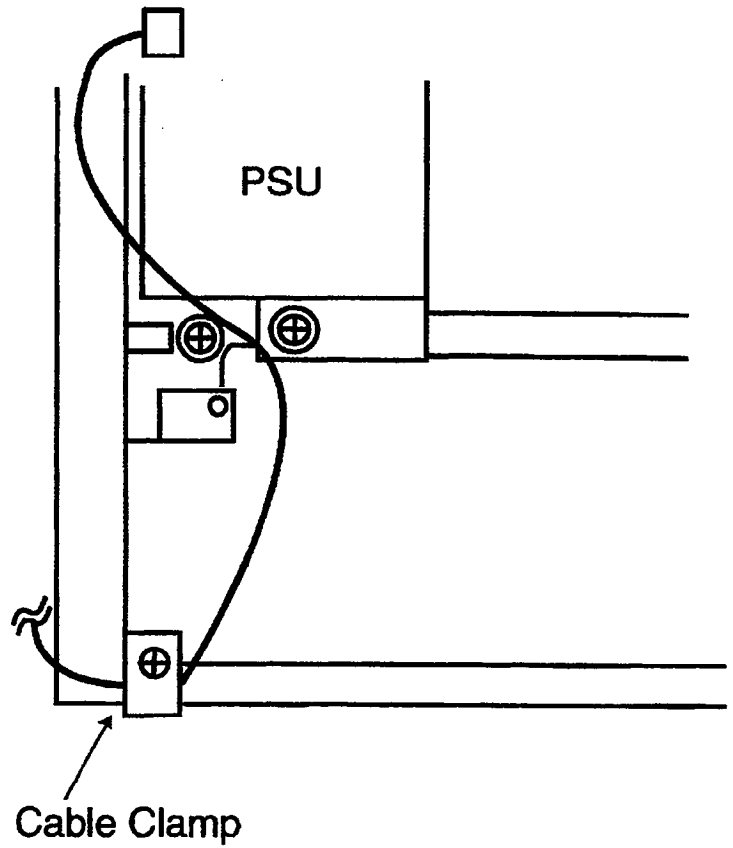

Figure 2-15 Attaching the PSU Cable to the KSU
- Using the provided clamp and screw, attach the PSU cable to the KSU as shown in the following diagram. Refer to Figure 2-15 - Attaching the PSU Cable to the KSU.